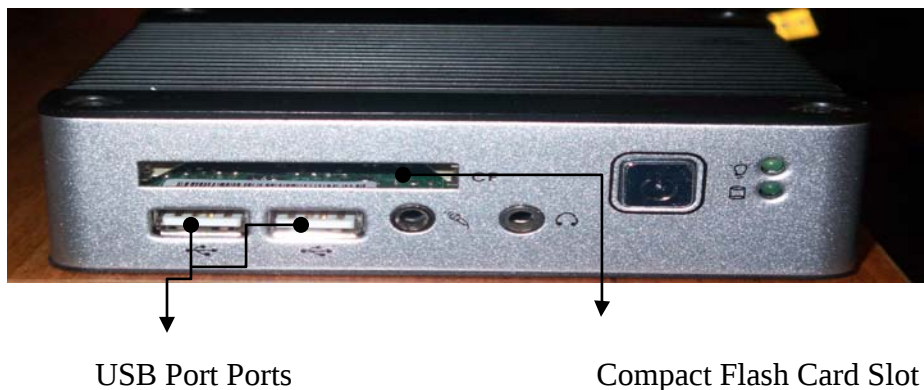

Figure 37. eBox Front and Back Ports
- 2) Connect the mouse, the keyboard to eBox 2300's USB, or PS2 back ports. PS2 is recommended for keyboard and the mouse connections to allow the tree USB devices to use the three eBox USB ports. Refer to figure 37 to locate PS2 port.